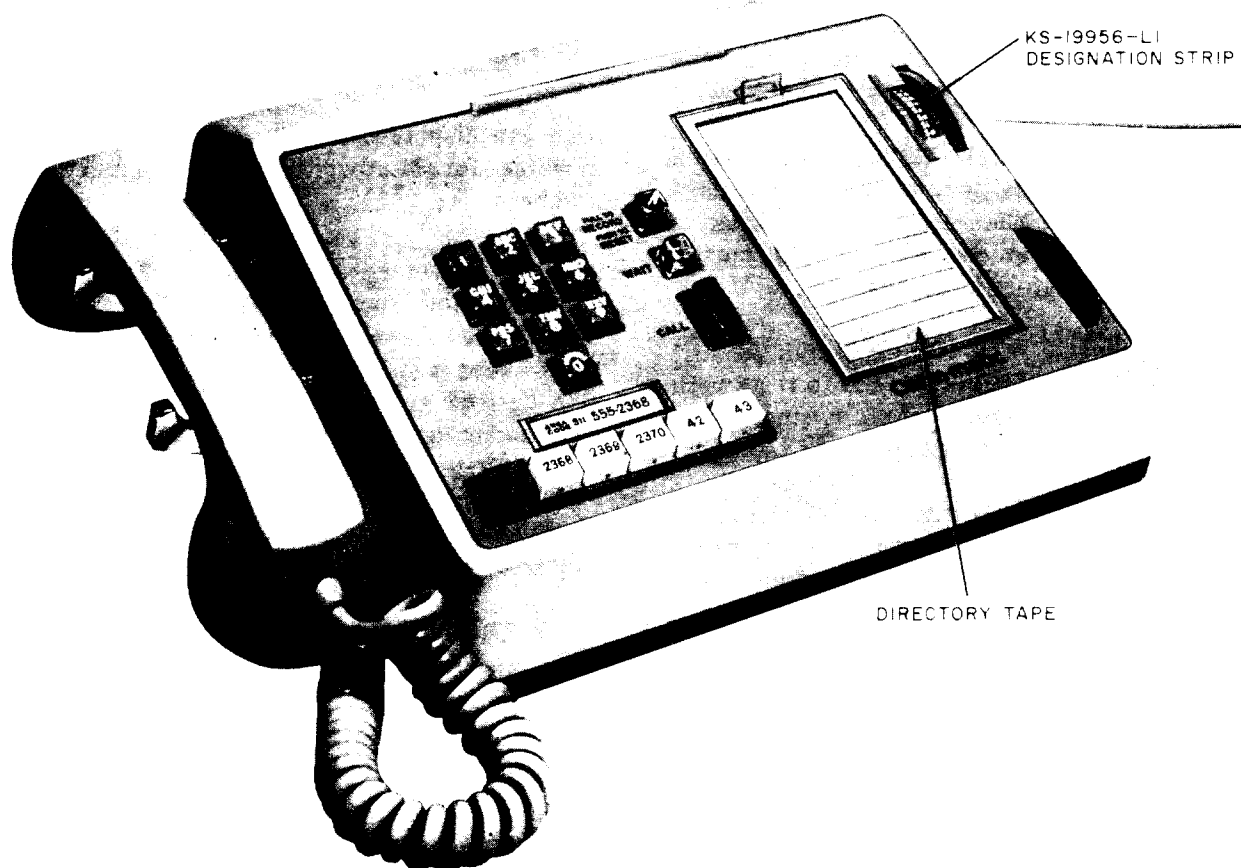
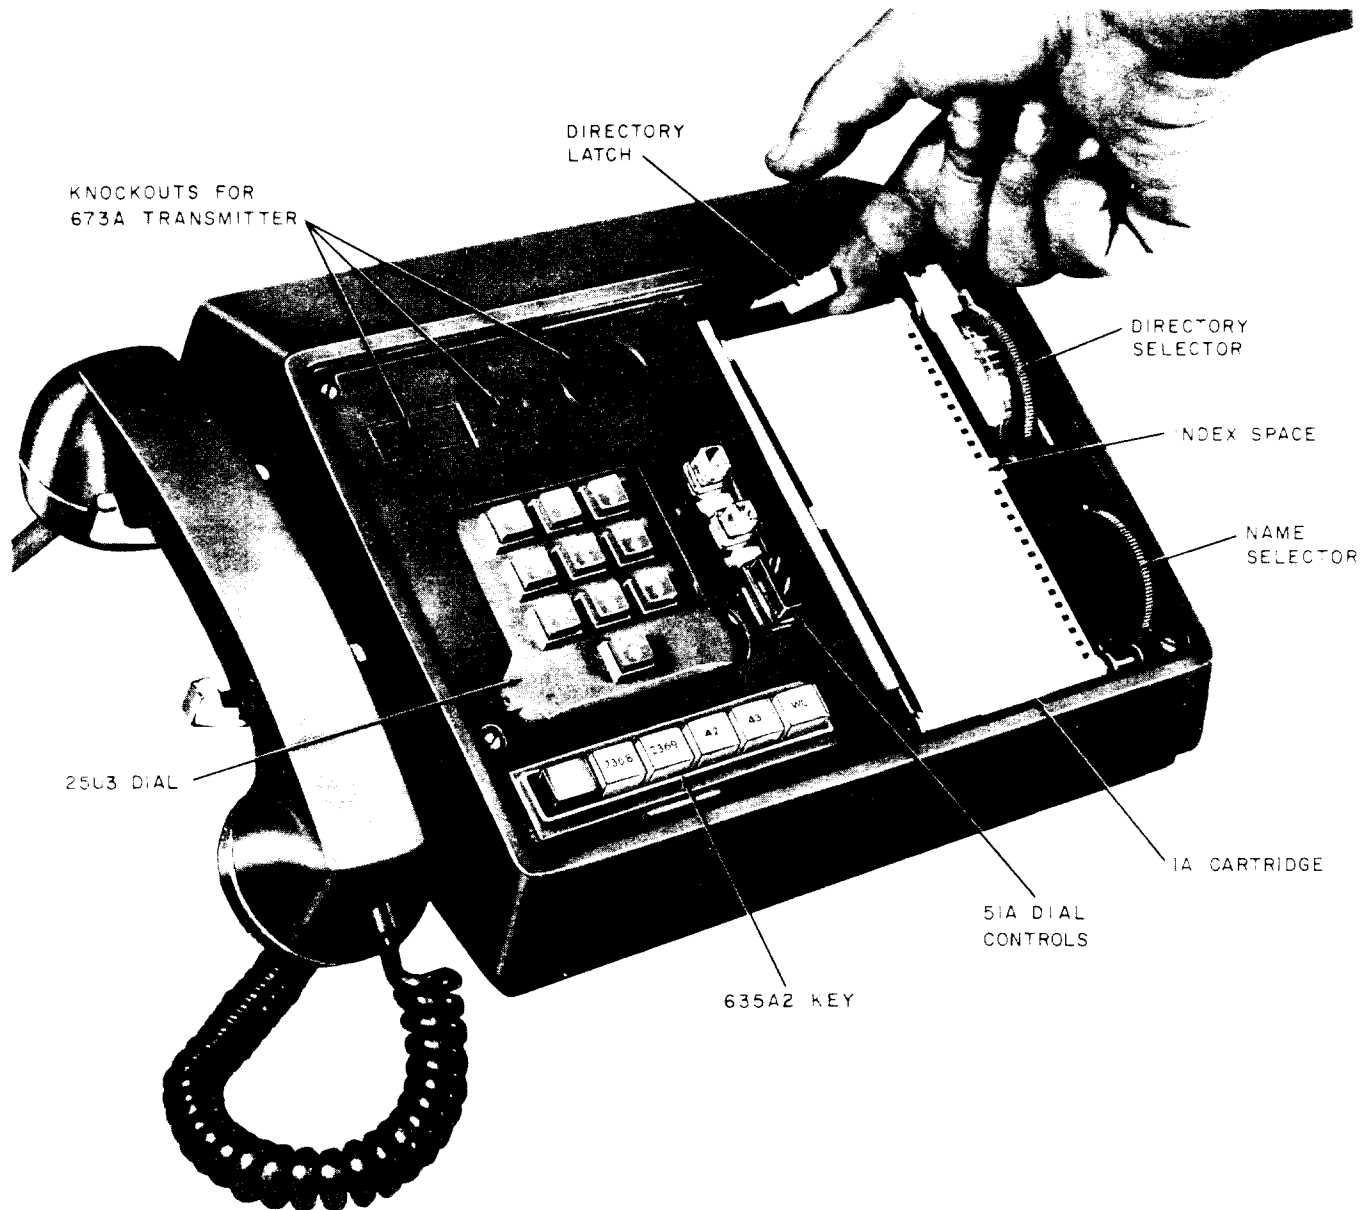

Fig. 1 — 1671A1 Telephone Set
Fig. 3 — Major Components of 1671A1 Telephone Set
1.01 This section provides information on a 6-button TOUCH-TONE dial telephone set containing a magnetic tape memory capable of storing and dialing 500 fourteen digit telephone numbers, Fig. 1.
2.01 The 1671A1 telephone set (Fig. 1) is a desk type telephone about the size of a 30-button CALL-DIRECTOR. It consists of a
2.08 A directory selector (Fig. 3) is for controlling the movement of the directory tape. When the selector is rotated, electric contacts cause a motor to drive and stop the tape at a desired group of 13 addresses brought into view under the window. A KS-19956, List 1 designation strip (Fig. 1) is put on the directory selector at the time of manufacture. Two optional strips are available. These strips have self-adhesive backing.
2.09 A name selector (Fig. 3) is a thumbwheel used to move a specific name (from a field of 13) into position over the white index space. Further instructions on how to use this wheel are in Part 4 of this section.
(3) **Directory Selector** (Fig. 3) is used for automatically scanning the directory tape. On the thumbwheel are 50 index designators which correspond to the index designations on the tape. When the Directory Selector is rotated, electric contacts cause a motor to move and stop the tape to the index selected.
(4) **Index Space** (Fig. 1) is the light area under the directory tape. To record or call a number, the desired space and/or name **MUST** appear over this index space.
(5) **Name Selector** (Fig. 3) is the thumbwheel used to move a specific name into the index space. To move tape **push down** to engage the gear teeth and turn in desired direction.
(6) **PULL TO RECORD — PUSH TO RESET Button** (Fig. 1) must be pulled up and released to condition the CALL-A-MATIC dialer for recording numbers. This button is illuminated when in the record position. To reset dialer, depress the button.
(7) **WAIT Button** (Fig. 1) is pushed after recording access digits for outside line service when dialing from a PBX. This button conditions the CALL-A-MATIC to stop for second dial tone after dialing access digits.
(8) **CALL Button** (Fig. 1) is pushed after hearing dial tone when making a call from the repertory. Outside calls from a PBX line will require a second push of the CALL button after second dial tone is heard. The CALL-A-